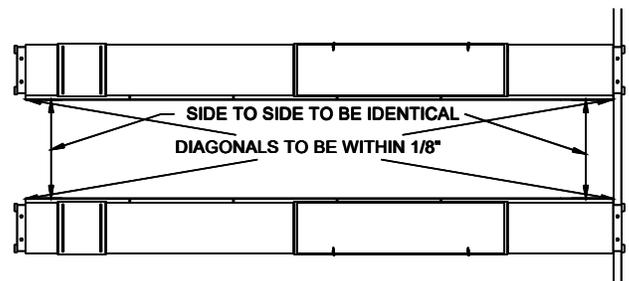

Fig 14 – Final Runway Positioning
- 17) Check the layout of the lift in the bay. (**This is the last opportunity to reposition the lift. Take a moment to determine the position of the front column anchors to ensure proper clearance from any crack, edge, or expansion joint. Ensure proper clearance for the lift operator at the Power Unit Controls.**) Adjust the position of the runways so the distance from power side jack rail to idler side jack rail is the same at the front and rear and the diagonal measurements from the front tip of one rail to the rear tip of the opposite rail are within 1/4", **Fig 14**.
- 48) Recheck the four runway measurements from **Fig 14**.
- 50) After properly shimming column plumb, loosen anchors and add one shim to both of the two inside anchors to lean the column outward slightly. Make sure lower Slide Blocks are in contact with column and torque all anchor bolts to 150 foot-pounds, **Fig 14**.